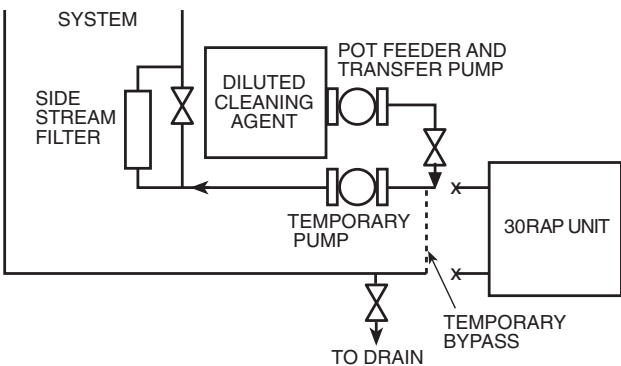

Fig. 27 — Cleaning Using a Side Stream Filter
- c. A side stream filter is recommended (see Fig. 27) during the cleaning process. Filter side flow rate should be enough to filter the entire water volume